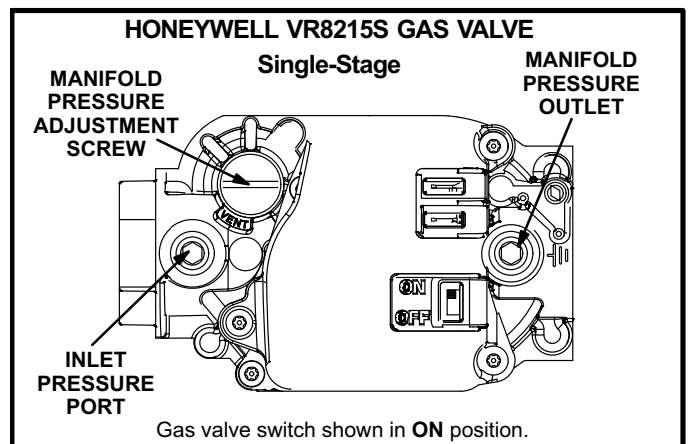
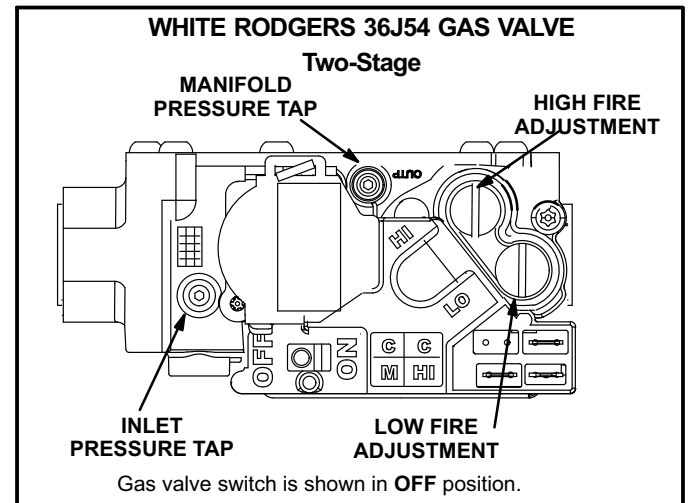

FIGURE 20
FIGURE 21
Units are equipped with a single stage gas valve (figure 20) or two stage gas valve (figure 21). On a call for first stage heat (low fire), the valve is energized by the ignition control simultaneously with the spark electrode. On a call for second stage heat (high fire), the second stage operator is energized directly from A3. A manual shut-off knob is provided on the valve for shut-off. Manual shut-off knob immediately closes both stages without delay. On both valves first stage (low fire) is quick opening (on and off in less than 3 seconds).
Gas Valve Operation (figures 20 and 21)
- 5- Switch gas valve to **OFF**. See figure 20 or 21 .
- 6- Wait five (5) minutes to clear out any gas. If you then smell gas, **STOP!** Immediately call your gas supplier from a neighbor's phone. Follow the gas supplier's instructions. If you do not smell gas, go to the next step.
- 7- Switch gas valve lever to **ON**. See figure 20 or 21 .